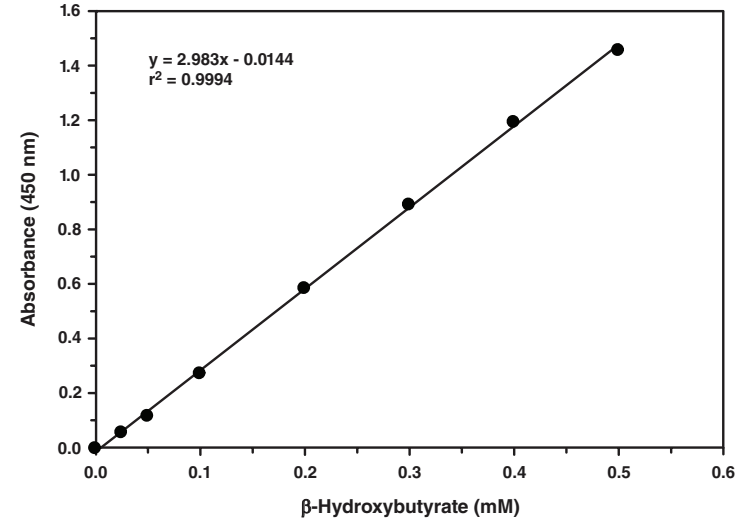

Figure 4. β -Hydroxybutyrate standard curve
3. Plot the corrected absorbance values (from step 2 above) of each standard as a function of the final β -HB concentration (mM) (see Table 1, page 16). A typical β -HB standard curve is shown in Figure 4, on page 19.